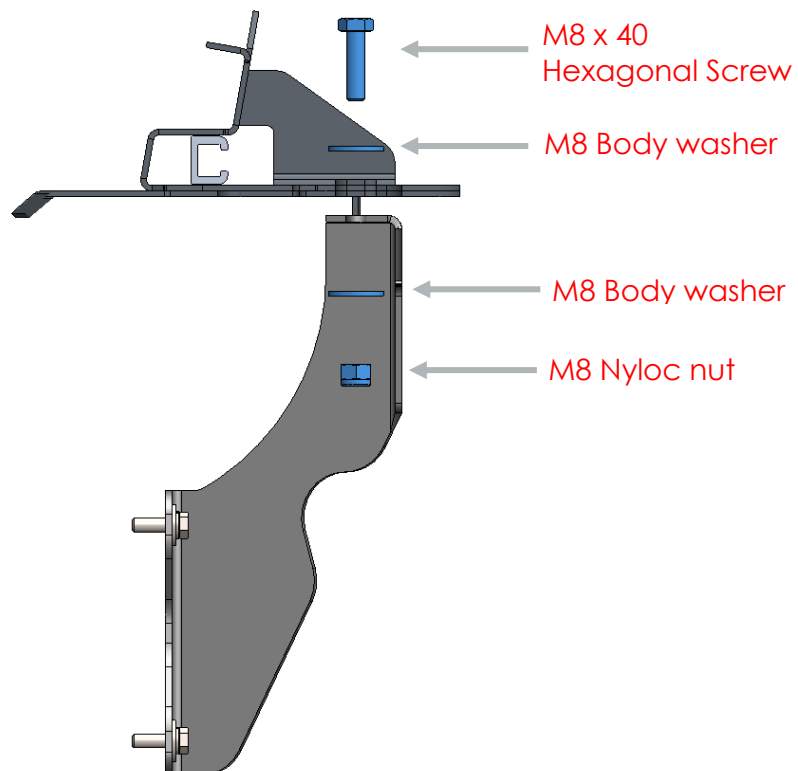

Fig. 2.6.2
- Prepare the fasteners for securing the canopy to the fitment brackets. Insert 2 x complete fast sets into each fitment bracket and hand tighten only. Fig. 2.6.2